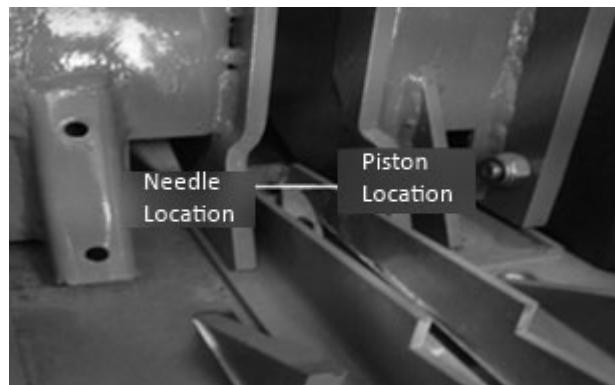

Figure 40: Location of needle
- Needles are set to the position (in Figure 40) by pushing needle saddle.